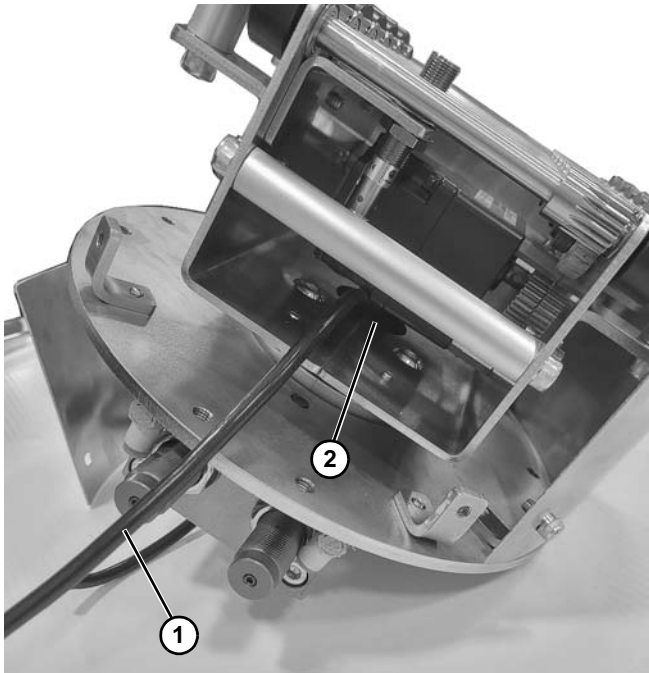

Figure 70
5. Route wires (Figure 70, item 1) from sensor down through center hole (Figure 70, item 2).